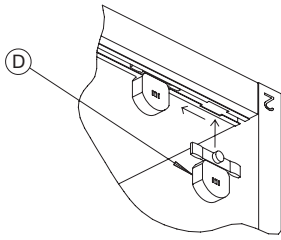

Fig. 4
3. At each end of the factory installed support rail you will find a rectangular cut-out, using this as an access point, install all the running gears (D). (Fig. 4)